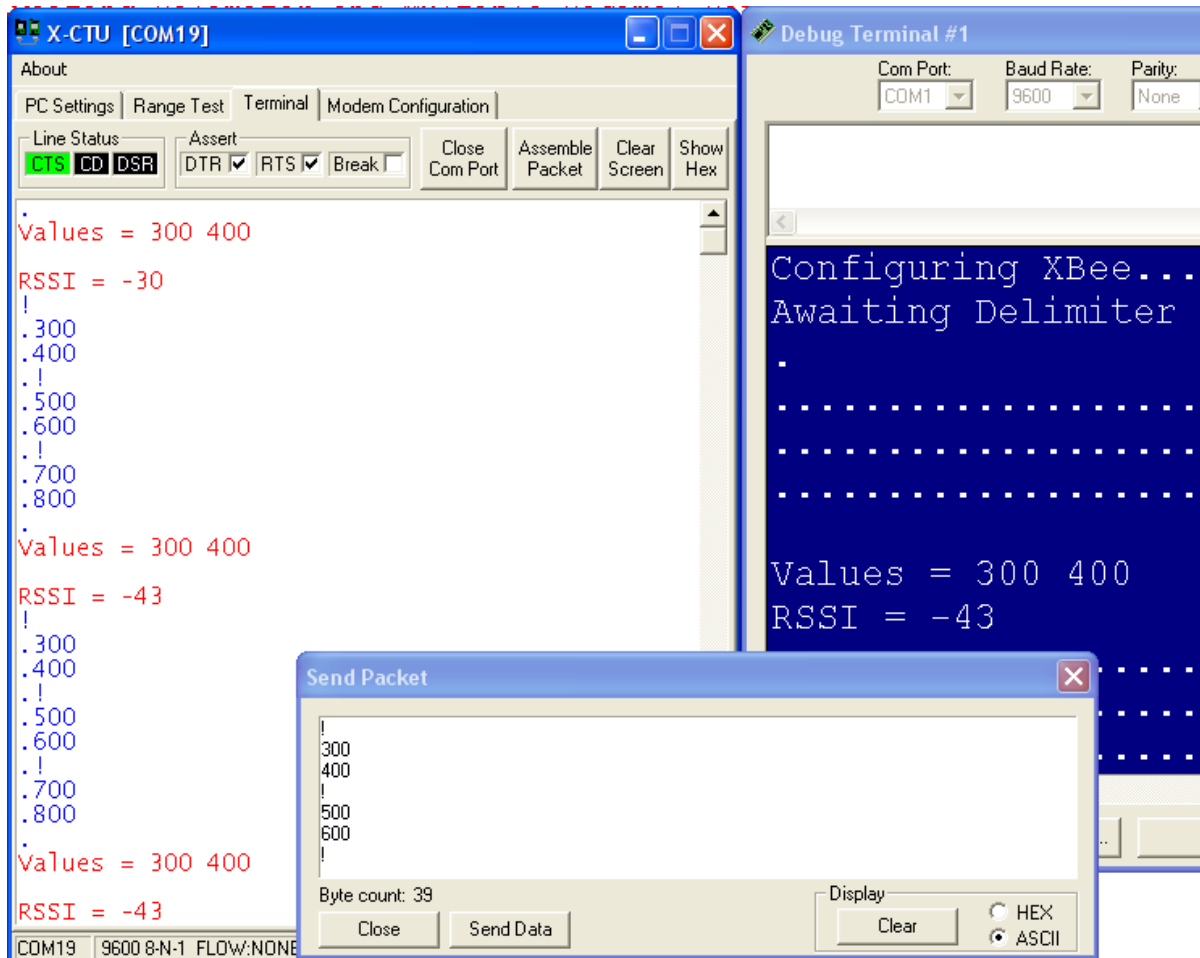

Figure 4-8: Getting dB Level Test
- ✓ Enter several values, the ! with **Enter**, then several more values. After entering !, the next two values should be accepted and displayed along with the RSSI value as shown in Figure 4-8.